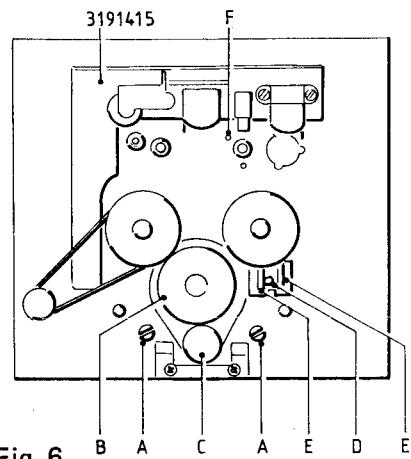

Fig. 6 3119415
- f) Remove the two cylinder-head screws "A" (Fig. 6) and the two separators (3019445) between the rear of the mounting plate and the reel drive aggregate.
- a) The lower edge of the head bracket (3191415) should cover half the reference hole "F" behind it when electrically engaged (Fig. 6).